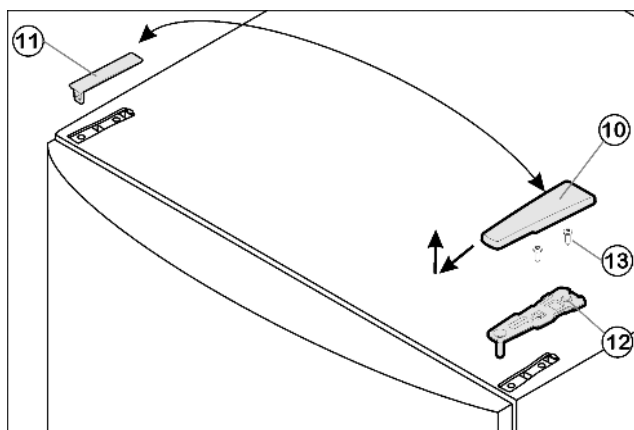

Fig. 4
- Pull off the cover Fig. 4 (10) forwards and upwards.
- Lift off the cover Fig. 4 (11).
- Unscrew the upper turn hinge Fig. 4 (12) (2x Torx® 25) Fig. 4 (13) and lift it off.
- Insert the upper turn hinge Fig. 4 (12) in the door on the new hinge side.
- Screw the upper turn hinge Fig. 4 (12) firmly into place (with 4 Nm) (2x Torx® 25) Fig. 4 (13). Possibly make preliminary holes with a bradawl or use a cordless screwdriver.
- Snap the cover Fig. 4 (10) and cover Fig. 4 (11) into place at the opposite side.